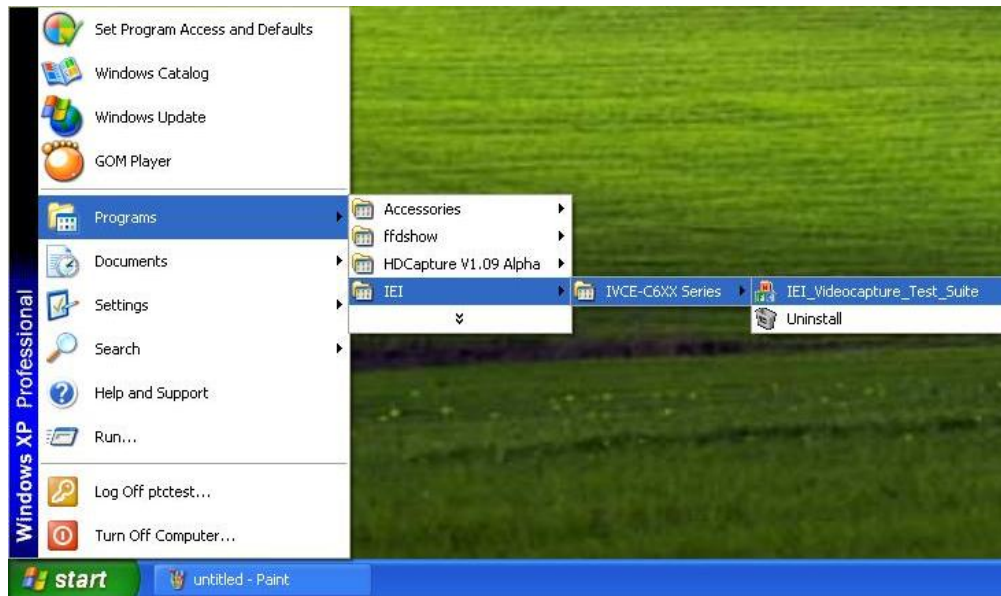

Figure 6-11: Uninstall IEI Video Capture Test Suite (Start Menu)
Step 1: To uninstall the test suite, select **Uninstall** in the “IVCE-C6XX Series” folder from the start-up menu (**Figure 6-11**).
Step 2: To uninstall the driver, right click the video capture card and select **Uninstall** in the Device Manager window as shown in **Figure 6-11**.